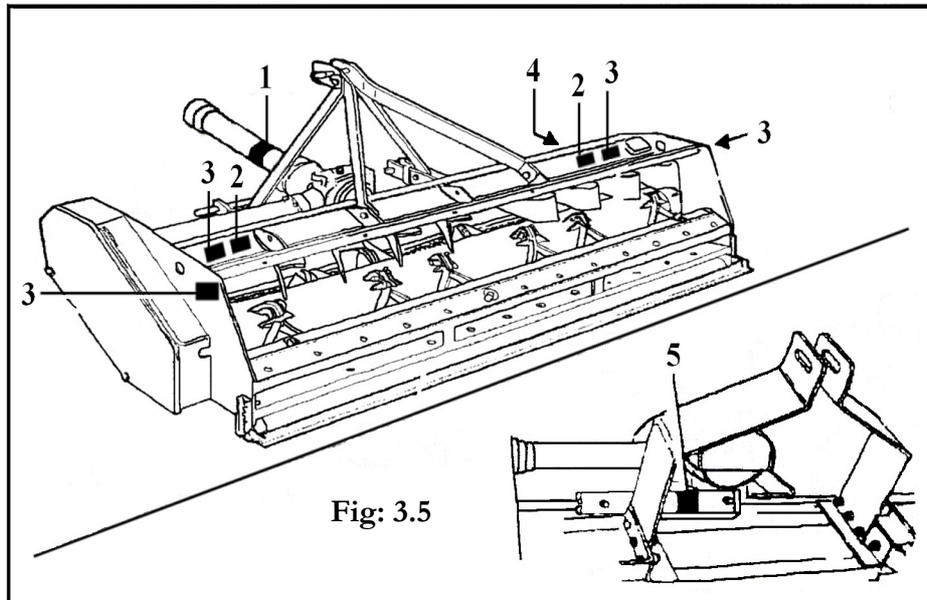

Fig: 3.5
1. Comply with the warnings on the stickers. (See Fig 3.5 for locations & details of warning stickers on the machine) Failure to comply with the given instructions could cause death or serious personal injury.